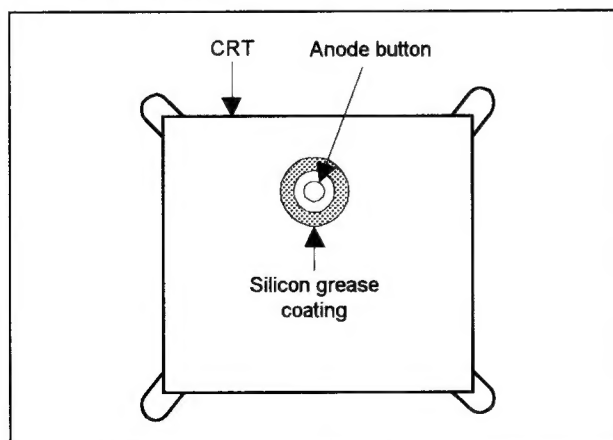

Fig. 6
- Subsequent to replacement of the CRT and HV transformer or repair of the anode cap, etc. by dismantling them, be sure to coat silicon grease for electrical insulation as shown in Fig.6.
- Wipe around the anode button with clean and dry cloth. (Fig.6)